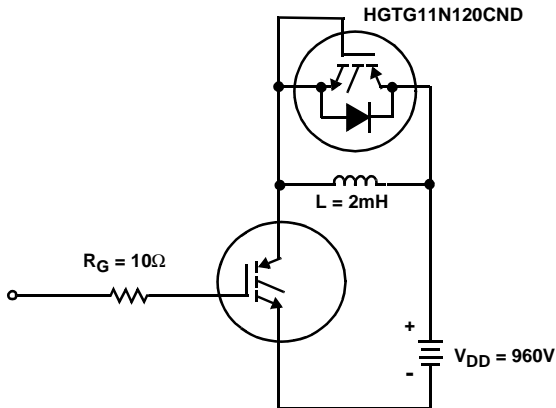

FIGURE 18. INDUCTIVE SWITCHING TEST CIRCUIT
- Values for two Turn-On loss conditions are shown for the convenience of the circuit designer. E_{ON1} is the turn-on loss of the IGBT only. E_{ON2} is the turn-on loss when a typical diode is used in the test circuit and the diode is at the same T_J as the IGBT. The diode type is specified in Figure 18.